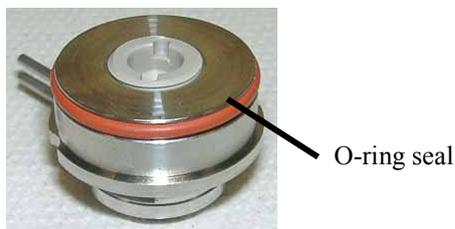

Fig. 53: Rear seal wash body with O-ring seal
5. Verify that the O-ring seal (part no. 6266.2202 for 5 seals) is installed on the rear seal wash body (→ Fig. 53). Slightly grease the O-ring seal and metal part of the rear seal wash body if necessary.